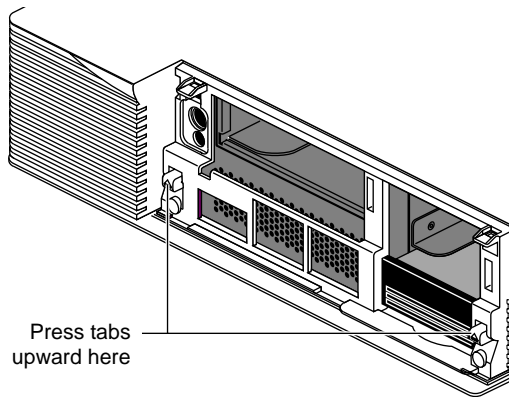

Figure 2-5 Pressing Up the Tabs
- Press up on the tabs on each side of the drive openings (Figure 2-5).